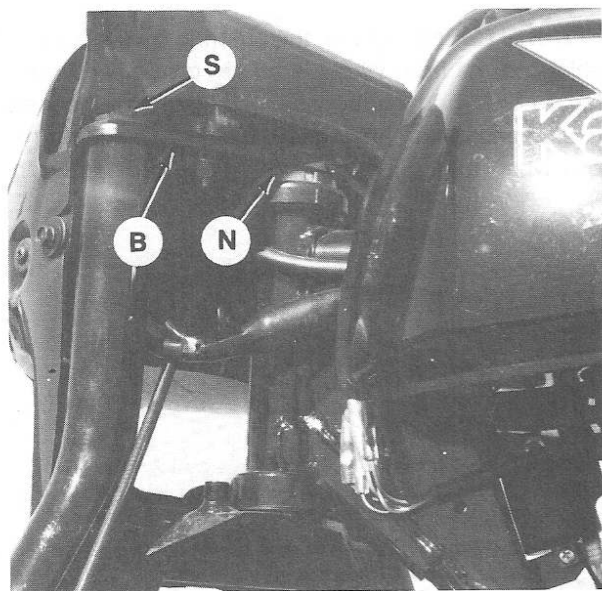

Fig. K1-14—View of steering head assembly. Rotate slotted nut (N) to adjust steering play.
OVERHAUL. To separate the steering stem and fork assembly from the frame's steering head, proceed as follows: Remove the front wheel and axle assembly, fuel tank, handlebars and headlight. Remove bracket screws (S—Fig. K1-14), steering stem screw and remove steering bracket (B). Unscrew slotted nut (N) then remove dust cover and bearing race from the steering stem. Note that the steering stem is now loose and the bearing balls may fall out. Lower the steering stem and fork assembly away from the steering head while being careful not to lose any loose bearing balls.